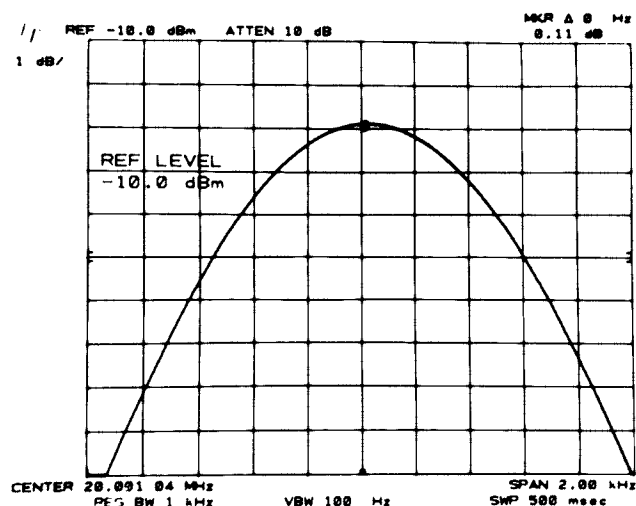

Figure 4-12. IF Gain Uncertainty Measurement
15. Set , step attenuator, and according to Table 4-9. At each setting, record the MKR Δ amplitude (deviation from the 0 dB reference setting) in the table (see Figure 4-12). Add the step attenuator error to find the corrected deviation.